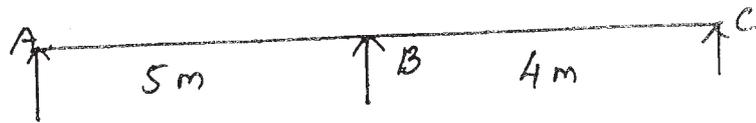

Fig. Q. 11
11. (i) Draw the influence line for the reaction R_B of the beam shown in Fig. Q. 11 $EI = \text{Constant}$.